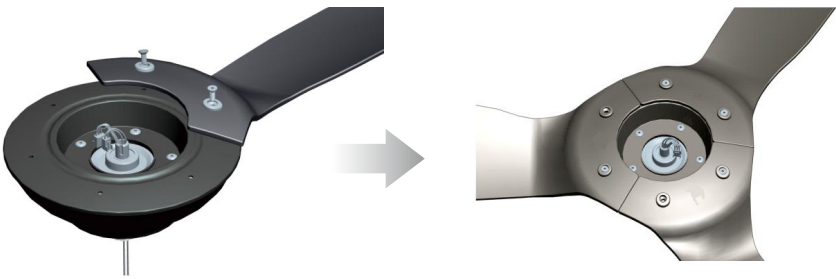

Fig 1.1
1.1 Take out the motor hub from the packaging box and place it upside down on the enclosed paper motor case. Locate 6 blade attachment screws in the hardware pack. Make sure each blade matches the corresponding place with different color label on the hub and tighten the screws as show in Fig 1.1.